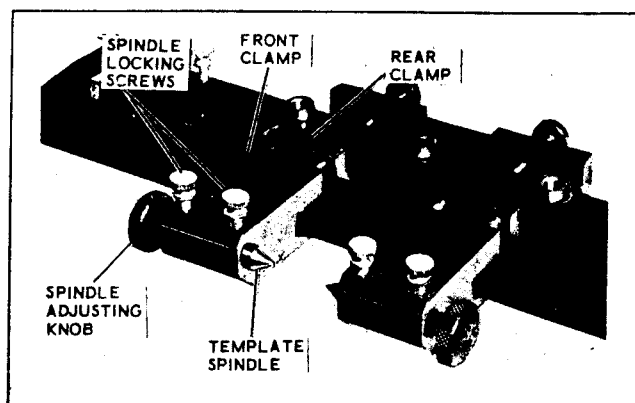

Figure 1-7. Round Template Holder, Model 3057-02. (Used with Mark "O-A" Series)
f. A Round Template Holder (fig. 1-7) is available as OPTIONAL equipment for use with the Mark "O-A" Template Rail Assembly. The holder consists of two clamp assemblies as shown in figure 1-7. Each clamp assembly consists of a front clamp and a rear clamp. The front clamp fits over the front of the template rail and is locked in position by a thumbscrew in the bottom of the clamp. The rear clamp slides into the T-slot of the template rail and is attached to the front clamp by two socket head screws.